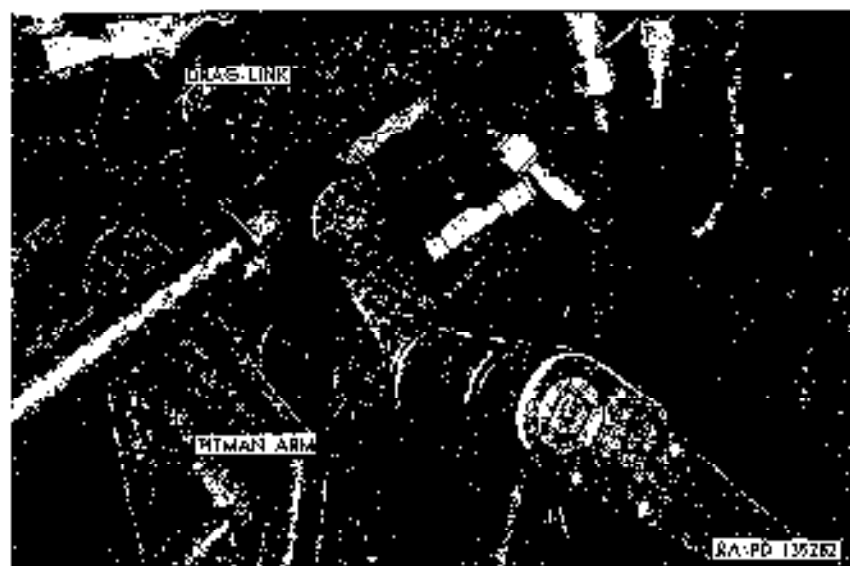

Figure 263. Removing steering wheel.
- (6) *Relief valve.* The relief valve (fig. 263), mounted on a one set bolted to the steering gear housing, prevents excessive
- (4) Remove left front fender assembly (par. 221).
- (5) Remove pitman arm (c above).
- (6) Remove relief valve (par. 245b).
- (7) Disconnect inlet and outlet lines (fig. 263) at left side of control valve.
- (8) Disconnect horn wire (fig. 263) at terminal on top of horn contact-brush cover (fig. 260).
- (9) Remove three safety nuts and cap screws (fig. 263) securing steering gear to steering gear bracket, and remove steering gear from vehicle (fig. 260).
- (10) Remove split-lockwasher screw, spacer, cap screw, washer, and safety nut securing relief-valve mounting bracket (fig. 263) to steering gear housing, and remove bracket from housing.
- (3) Position relief-valve mounting bracket (fig. 263) on right side of steering gear housing, install split-lockwasher screw, spacer, cap screw, washer, and safety nut, and tighten.
- (5) Connect horn wire (fig. 263) to terminal at top of horn contact brush cover (fig. 260).
- (6) Position inlet and outlet lines (fig. 263) at elbows on left side of control valve, and tighten connectors.
- (7) Install relief valve (par. 2482).
- (8) Install left front fender assembly (par. 321).
- (9) Install steering wheel (par. 249c).